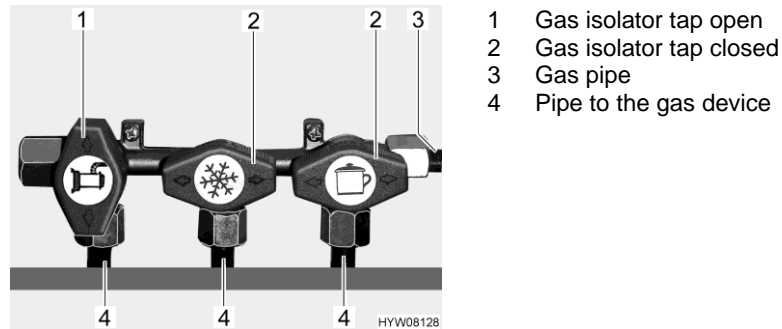

Fig. 63 Gas isolator taps position (example)
- Position the gas isolator tap of the corresponding gas device parallel (Fig. 63,1) to the pipe (Fig. 63,4) leading to the gas device.
- Position the gas isolator tap of the corresponding gas device transverse (Fig. 63,2) to the pipe (Fig. 63,4) leading to the gas device.